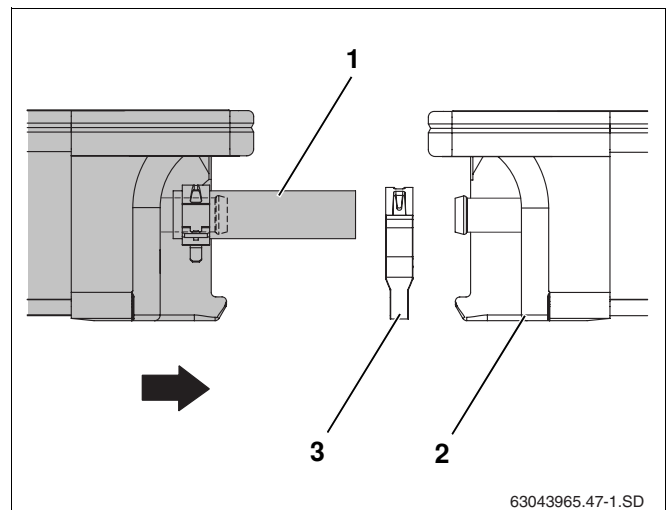

Fig. 49 Pushing second collector towards the first
- Place second collector along with the pre-assembled solar hoses (Fig. 49, **Item 1**) onto the profile rails and let it slide into the anti-slip protectors.
- Push the second hose clip (Fig. 49, **Item 3**) onto the solar hose.
- Push the collector towards the first collector (Fig. 49, **Item 2**) so that the pre-assembled solar hoses are pushed onto the left-hand connections on the first collector.